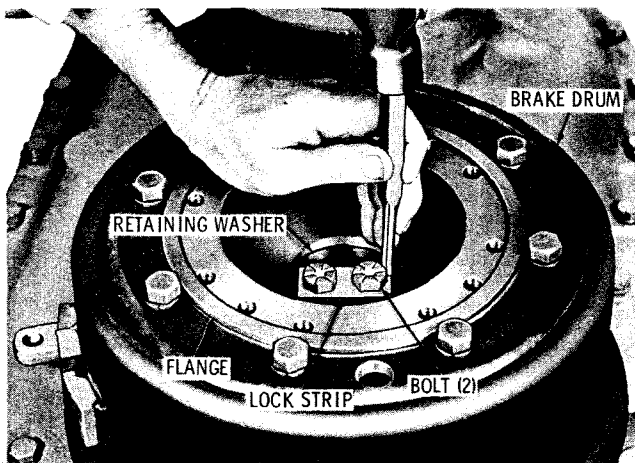

Fig. 5-40. Flattening lock strip which retains rear output flange bolts
(5) On transmissions having a parking brake, flatten the lock strip which retains the output flange bolts (fig. 5-40). Remove the two bolts, lock strip, retaining washer and shims (if used).
(6) Remove the brake drum and output flange. Remove the eight bolts which retain the brake drum. Remove the drum from the output flange.